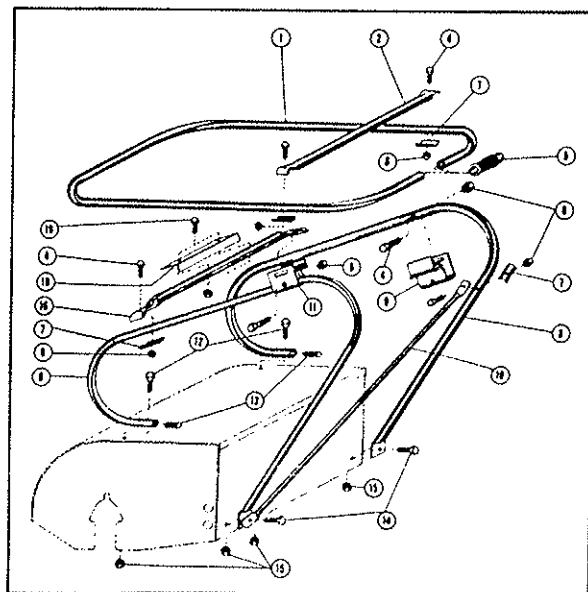

FIGURE 1
2. Remove upper part of handle from individual carton. Insert lower end under anchor plate, Item 18, Figure 1. Place handle in channel by turning locks, Items 9 and 11, Figure 1, and secure into place by turning locking cams into position.